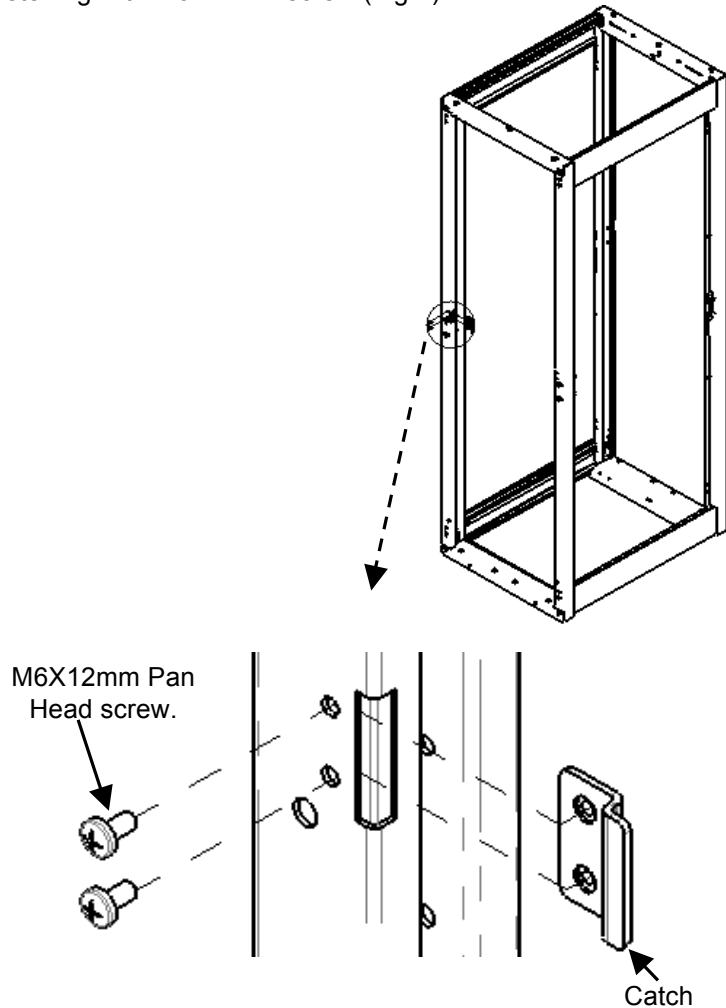

Fig. 2
1. Install the Catch in the upper cut-out in the frame opposite the hinges, fastening with M6x12mm screw.(Fig.2)